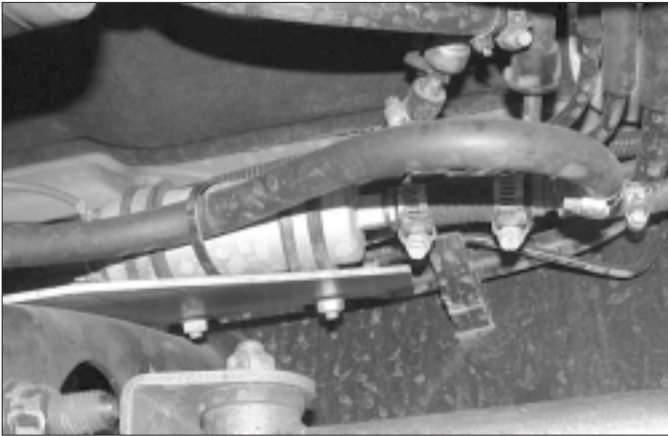

Fig. 7-a
- B. Install the assembled fuel pump assembly to the transmission cross member with the supplied fasteners. (See Fig. 7-a.) The fuel pump inlet should face the front of the vehicle.